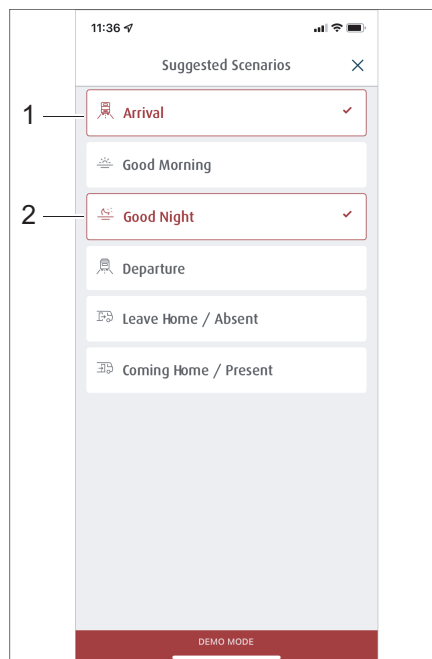

Fig. 281 Selecting preset scenarios
- Click on the desired scenarios, e. g. *Arrival* (Fig. 281,1) and *Good Night* (Fig. 281,2).